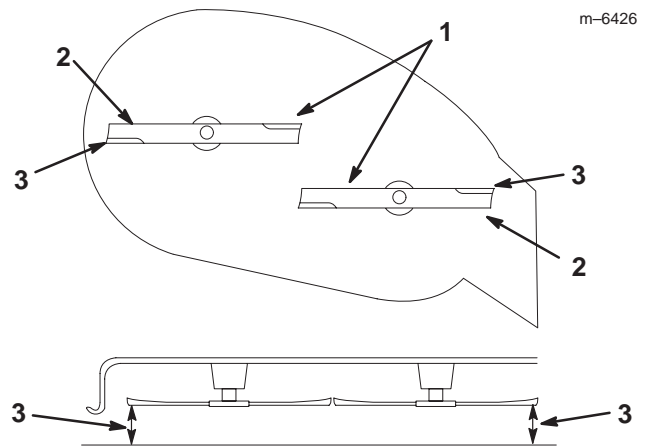

Figure 40
5. Carefully rotate the blade(s) side to side (Fig. 40). Measure between the outside cutting edges and the flat surface (Fig. 40). If both measurements are not within 3/16 inch (5 mm), an adjustment is required; refer to steps 6 through 8.